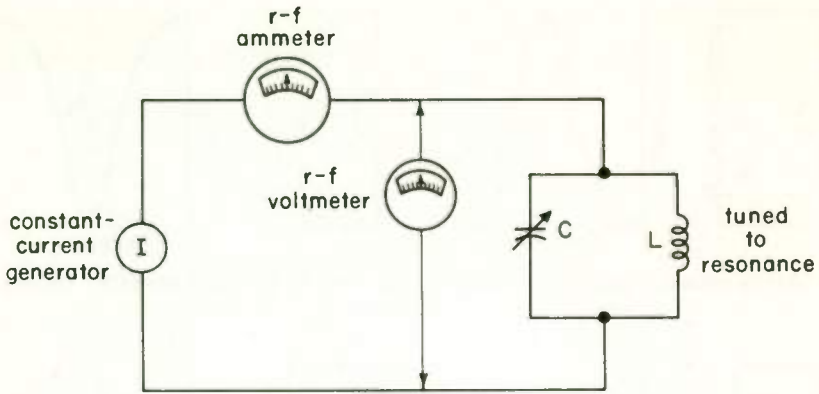

Fig. 21
1. Refer to Fig. 21. If C is changed, so the circuit is no longer at resonance, the reading of the voltmeter (a) *(will)* *(will not)* change and the reading of the ammeter (b) *(will)* *(will not)* change.
2. Refer to Fig. 21. The reading of the voltmeter when C is increased will be (a) *(more)* *(less)* than the voltage at resonance. If C had been decreased, the voltmeter reading would have (b) _____.